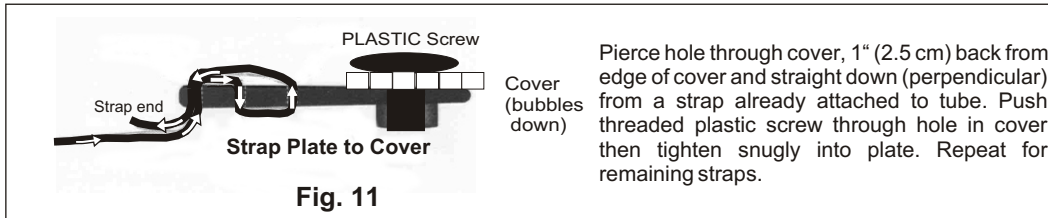
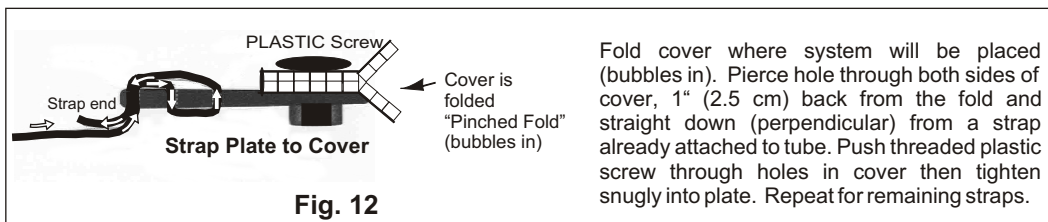

Fig. 11
Fig. 12
- Choose either Fig. 11 OR Fig. 12 - the appropriate instructions below for your pool shape. If you have determined a mid-pool or off-center placement, it may be easier if you move the cover away from the pool and fold it (bubbles in) on a flat surface.
For Systems Placed at Pool End (Rectangular Pools) (Fig.11)
For Systems placed at Mid-Pool or Off Center (Round, Oval or Irregularly Shaped Pools) (Fig. 12)